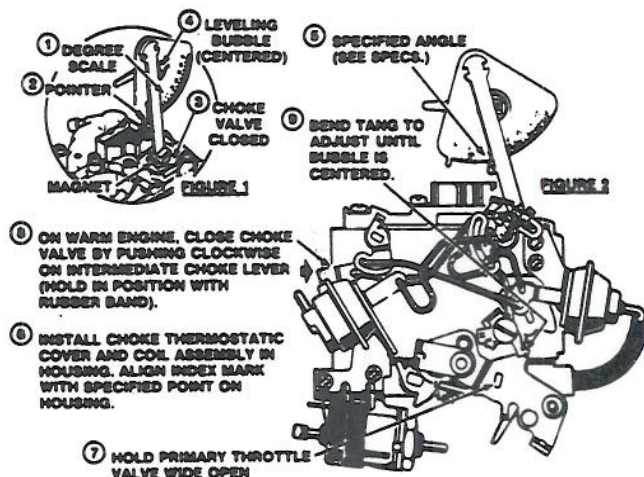

Fig. 18 Unloader adjustment. 1981-82 2SE & E2SE carburetors
1. Rotate degree scale until zero is opposite pointer, then with choke valve completely closed, place magnet on top of choke valve and rotate bubble until centered, Fig. 18.